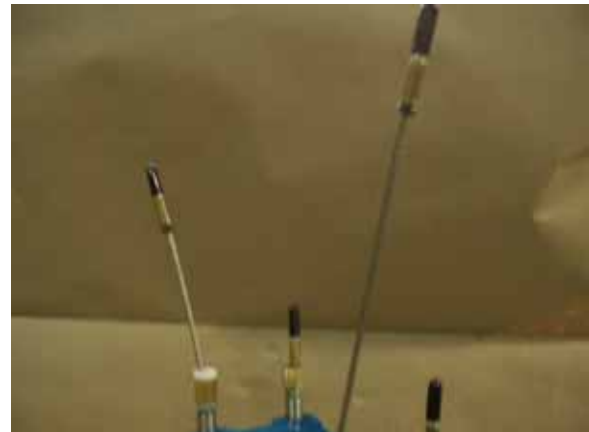

Figure 98 - Pull Up Spring Cables
4. Pull the spring cables up out of the upper cable adjusters, as far as possible (Figure 98).